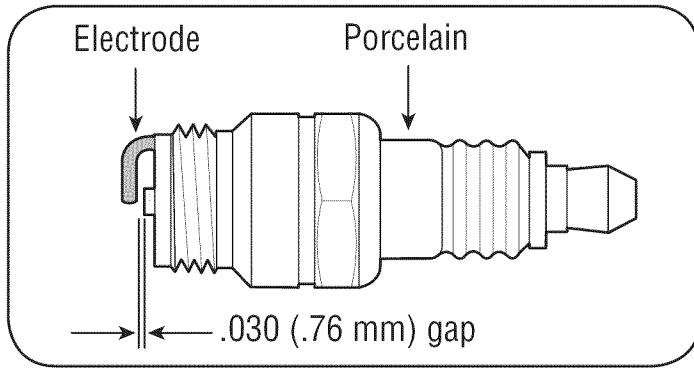

Figure 13
2. Remove and inspect the spark plug. Check gap to make sure it is set at .030". See Figure 13.